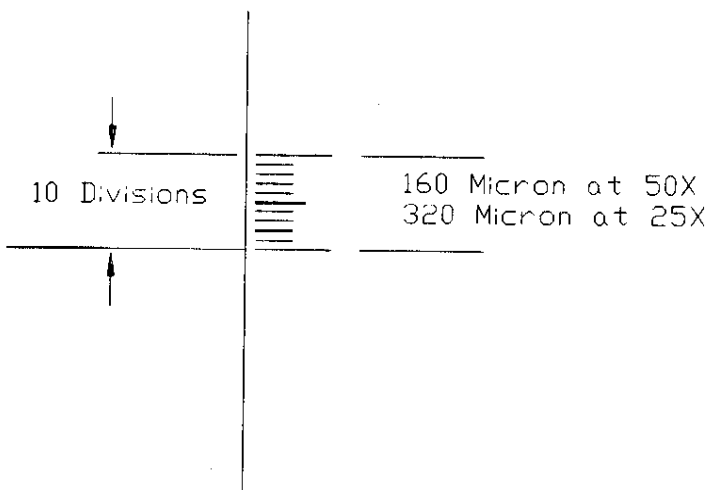

FIGURE 2
- X. Set 8702 Spot size switch to 150 micron spot position. Adjust 150 micron spot F1 pot (turn CW slowly) to get a 150 micron spot on the phosphor. This is measured in the microscope on 50X. See Figure 2. Check the power (Glassman current) when setting spot size, if it changes re-adjust pierce to correct power.